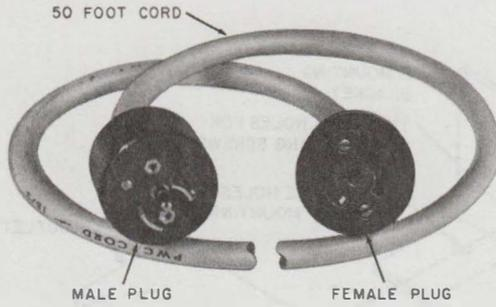

Fig. 64—B Weatherproof Cord
3.16 The B weatherproof cord (Fig. 64) is used to provide connection between the post-mounted jack at the service pad and the jack on the recreational vehicle at the trailer park or between the dock and boat in a marina. It consists of a 50-foot, 16-gauge, 3-wire (ring, tip, and ground) yellow PVC insulated flexible cord, equipped with one male and one female plug. PHONE is stamped on the cord at 1-foot intervals for identification. Rubber boots on the plugs mate with their respective jacks to provide a weatherproof seal.